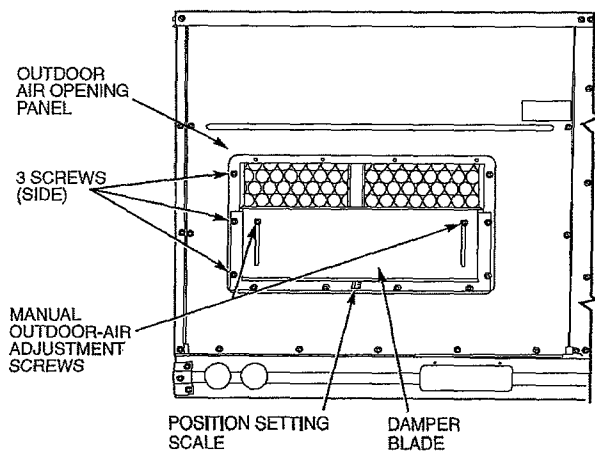
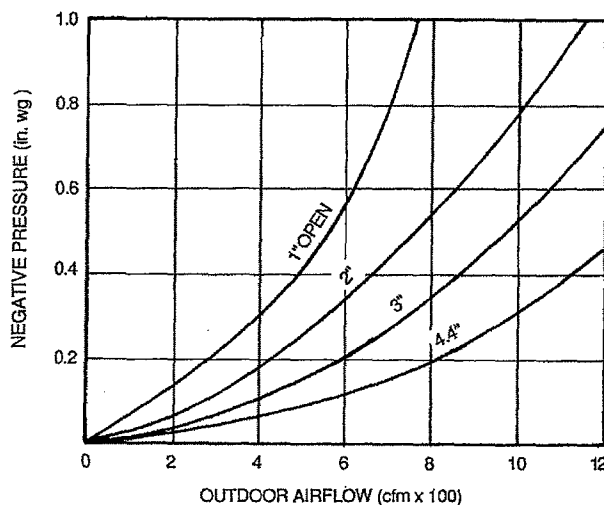

Fig. 17 — Damper Panel with Manual Outdoor-Air Damper Installed
Fig. 20 — Outdoor-Air Damper Position Setting
2. Remove filter access panel by raising panel and swinging panel outward. Panel is now disengaged from track and can be removed. No tools are required to remove the filter access panel. Remove outdoor-air opening panel. Save panels and screws. See Fig. 17.
8. Adjust minimum position setting of the damper blade by adjusting the manual outdoor-air adjustment screws on the front of the damper blade. See Fig. 17. Slide blade vertically until it is in the appropriate position determined by Fig. 20. Tighten screws.